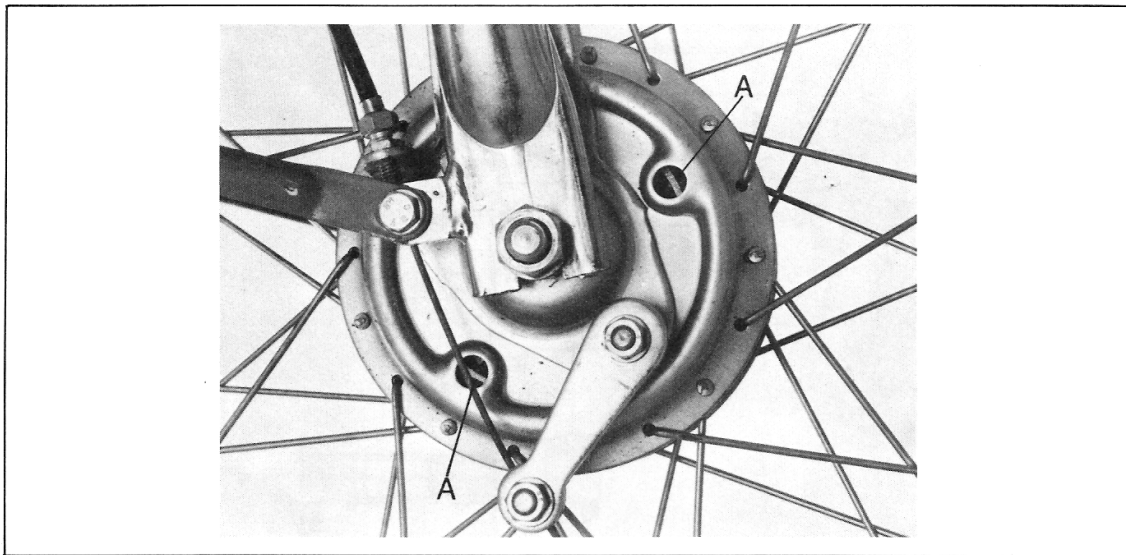

Fig. 12
■ inspect the shoe «A» linings for front and rear brakes (Fig. 12).